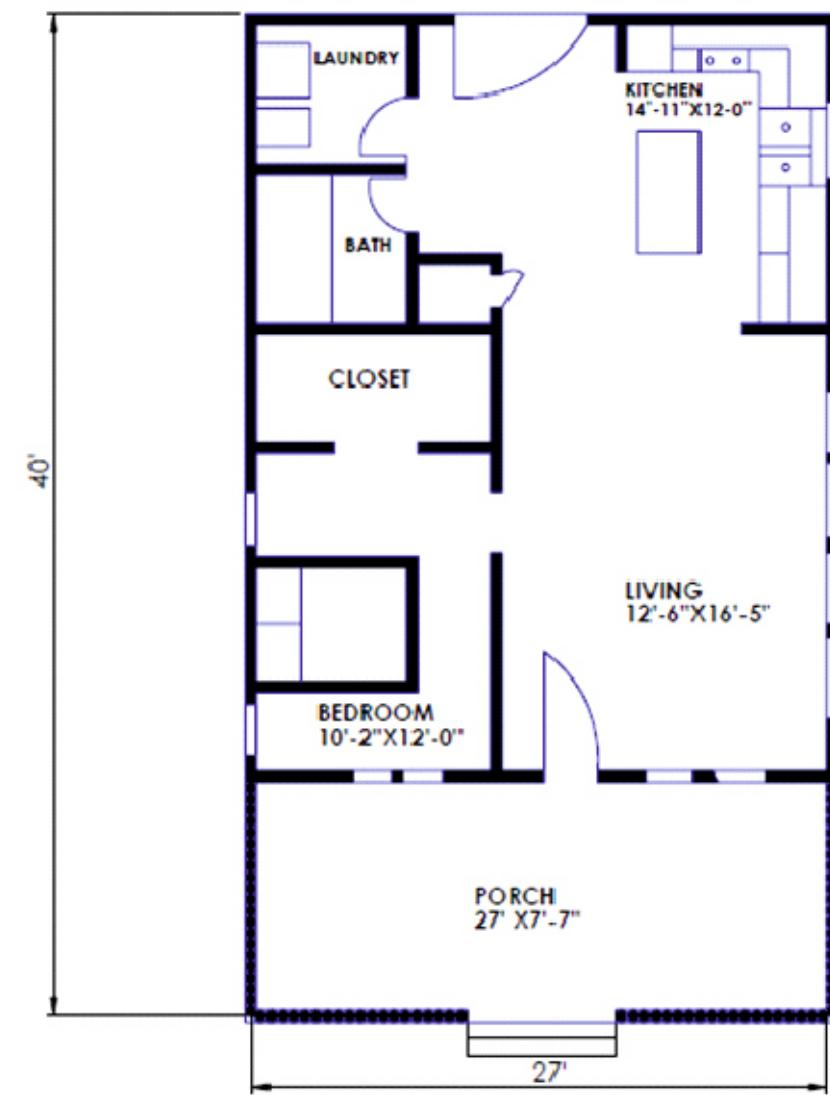

Figure 11.1: Details of single room plan
11.1 Draw single room plan of the building as shown in Figure 11.1. (Scale 1feet=5mm)